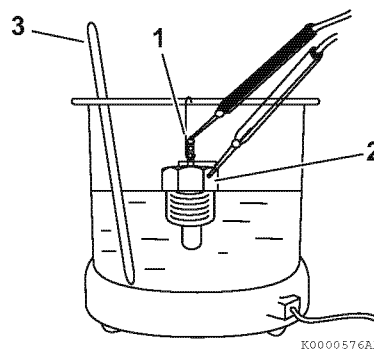

Figure 8-8
1. Check for proper operation of the temperature switch. Connect a continuity light or ohmmeter to the temperature switch. Connect one lead to the terminal of the switch (**Figure 8-8, (1)**) and the other lead to the metal portion of the switch (**Figure 8-8, (2)**).
2. Place the temperature switch and an accurate thermometer (**Figure 8-8, (3)**) in engine coolant.